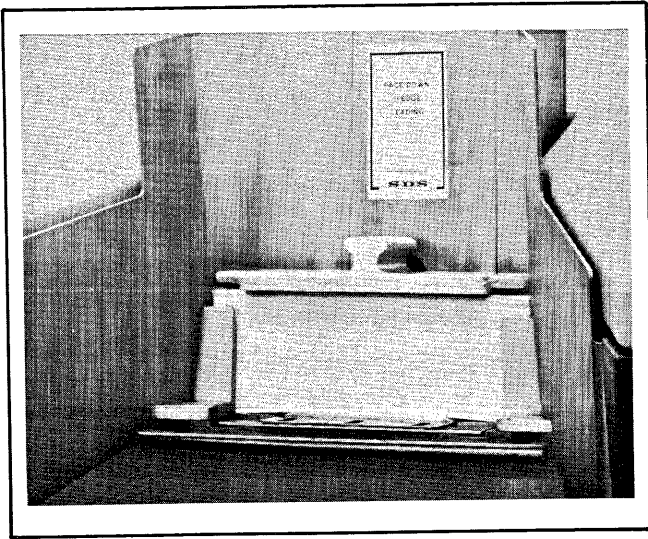
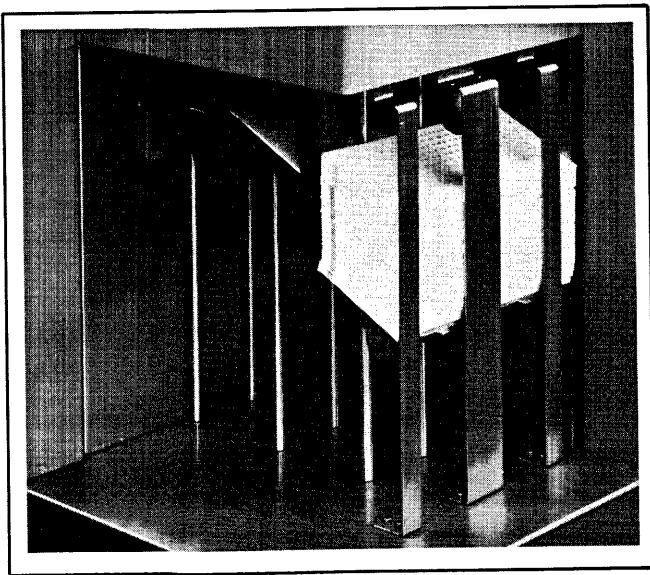

Figure 10. Model 7120 Input Hopper
Figure 11. Model 7120 Multiple Output Stackers
2. Remove the card weight (and cards, if present) from the input hopper (see Figure 10). Press the RESET switch to feed the card (if present) from the card read platform into alternate stacker 2 (see Figure 11).